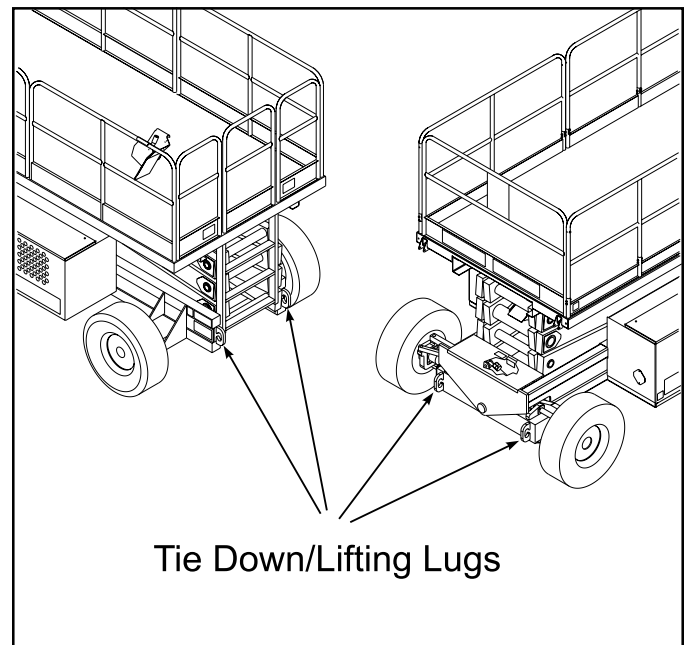

Figure 8: Transporting Work Platform
1. Secure straps to chassis tie down/lifting lugs only (Figure 8).
2. Secure the work platform to the transport vehicle with chains or straps of adequate load capacity attached to the chassis tie down/lifting lugs (Figure 8).